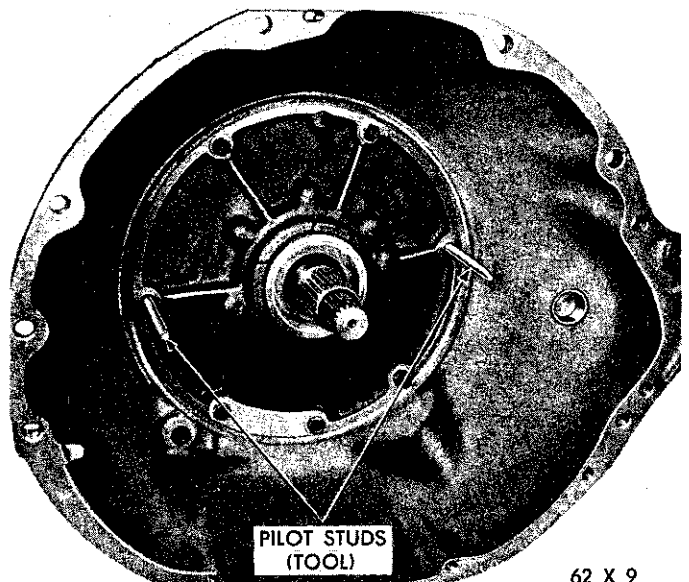

Fig. 86—Installing Front Pump and Reaction Shaft Support Assembly
- (1) Screw two pilot studs, Tool C-3288 in the front oil pump opening in the case (Fig. 86). Install a new gasket over the pilot studs.
- (2) Place a new rubber seal ring in the groove on the outer flange of the oil pump housing. Make sure the seal ring is not twisted. Coat the seal ring with grease for easy installation.
- (3) Insert aligning Tool C-3881 through the pump body and engage with the inner rotor.
- (4) Install the assembly in the case, tap lightly with a soft mallet if necessary. Place the deflector over the vent opening and install four pump body bolts, remove pilot studs and install the remaining bolts. Snug bolts down evenly, then tighten to 150 inch-pounds torque.